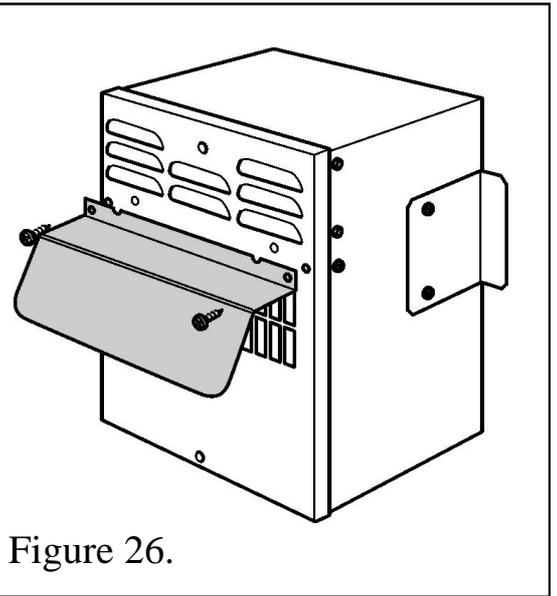

Figure 26.
7. Replace the fan box cover and weather shield (See figure 26) and secure using the two screws provided.